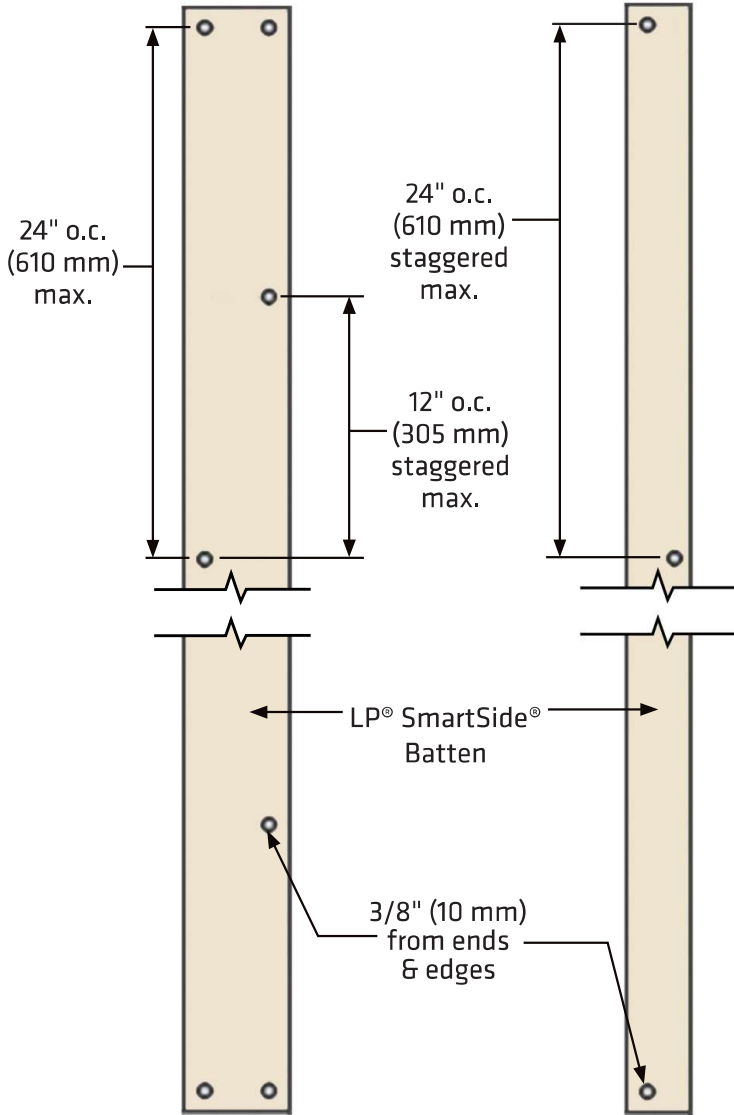

Figure 3a
- Maximum 3/8 inch (10 mm) from ends and edges *(See Figure 3a or 3b)*
- Fastened with two nails at both ends, with additional fasteners spaced a max. of 12 inches (305 mm) o.c. along alternating edges the length of the batten *(See Figure 3a)*